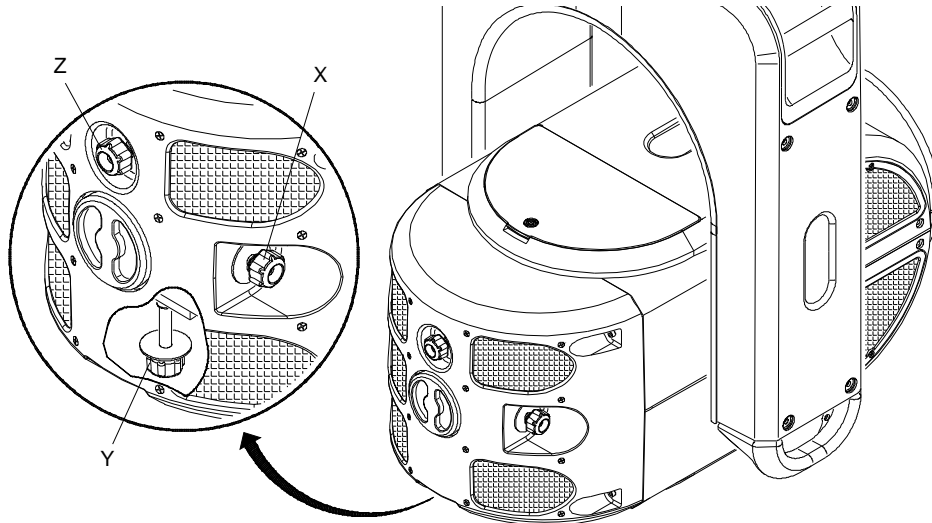

Figure 3-12: Adjusting the Lamp
- Step 5. At backcap, using horizontal (X) and vertical (Y) knobs, adjust hot spot to center of beam (**Figure 3-12.**)
- Step 6. Using focus (Z) knob, adjust beam to flatten hot spot.